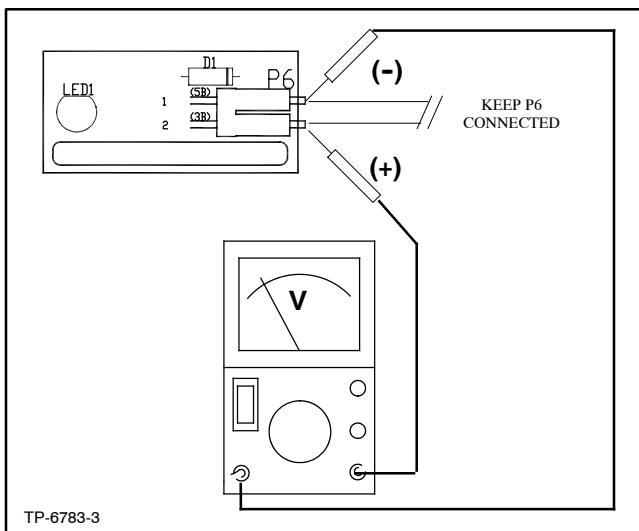

Figure 6-6 Checking LED Optic Board Voltage
- With the generator set running at no load, approximately 1-2 volts DC should be observed at 3B (+) and 5B (-) at the LED optic board. See Figure 6-6.